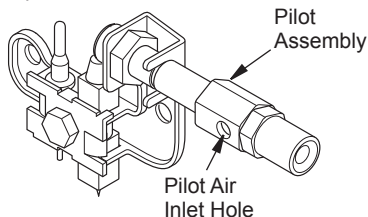

Figure 30 - Pilot Inlet Air Hole
2. Inspect burner, pilot and primary air inlet holes on orifice holder for dust and dirt (see Figure 30).
assembly. There is a small pilot air inlet hole about 2" from where the pilot flame comes out of the pilot assembly (see Figure 30). With the unit off, lightly blow air through the air inlet hole. You may blow through a drinking straw if compressed air is not available.